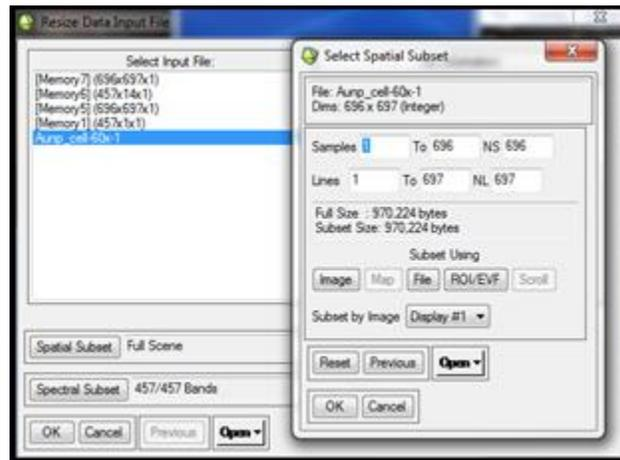

Figure 5.12b. Select Spatial Subset window
- The Resize Data Input File box Opens (Figure 5.12b).